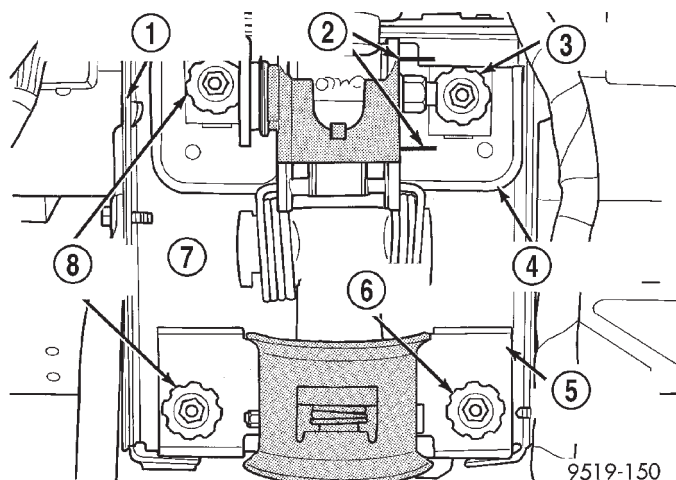
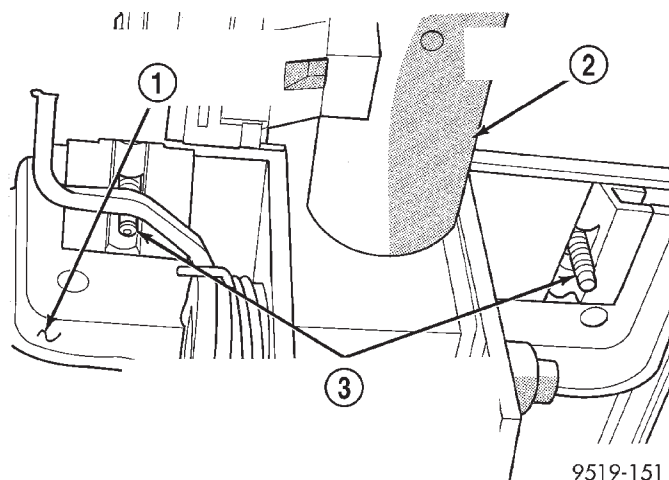

Fig. 26 Steering Column Upper And Lower Mounting Bracket Nuts
Fig. 27 Mounting Studs Correctly Positioned In Plastic Capsules
(30) Remove the 2 upper steering column assembly mounting bracket to support bracket nuts. Then remove the 2 lower steering column assembly mounting bracket to support bracket nuts (Fig. 26).
(31) Remove steering column assembly from vehicle through the drivers door of the passenger compartment. Use care to avoid damaging the paint or interior trim.
(1) Install steering column on the studs in the steering column support bracket. Loosely install the 4 steering column assembly attaching nuts.
(2) Tighten the 2 lower steering column assembly mounting nuts (Fig. 26) to hold the steering column in place. Be sure both breakaway capsules are still
fully seated in the slots of the upper steering column mounting bracket and the mounting studs are centered for and aft in the plastic capsules (Fig. 27). Then equally tighten both steering column upper mounting nuts, (Fig. 26) until upper steering column mounting bracket is seated against support bracket. Tighten the 4 steering column bracket to support bracket nuts to 17 N·m (150 in. lbs.).